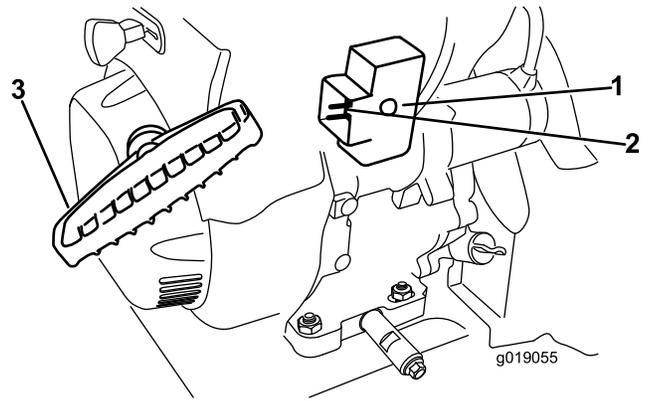

Figure 32
7. Start the machine by pulling the recoil starter or pressing the electric-starter button (Figure 32).